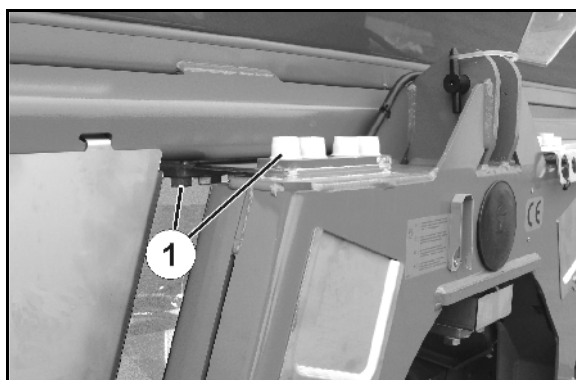

Fig. 52
The necessary distance between check screws (Fig. 52/1) and weighing frames is 2 mm.
1. Release the lock nut (Fig. 52/2)